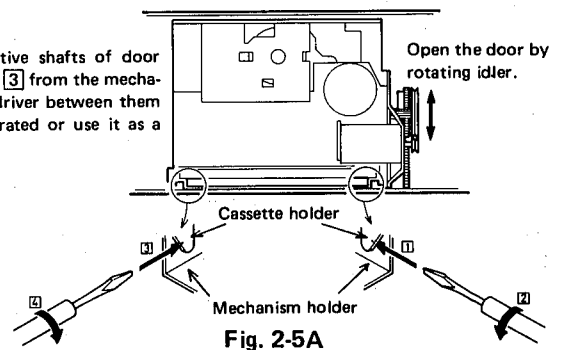

Fig. 2-5A
- 2) Remove one screw ⑥ retaining the door damper.
- 3) Remove two screws ③ retaining the mechanism ass'y from bottom side.
- 4) Remove two screws ⑦ retaining the mechanism assembly at top side.
- 5) Remove one screw ⑤ retaining the door motor bracket.
- 7) In order to detach the cassette holder, disengage the shafts to the cassette holder arms from the mechanism holder. (Use an ordinary (→) screwdriver as shown in Fig. 2-5A.